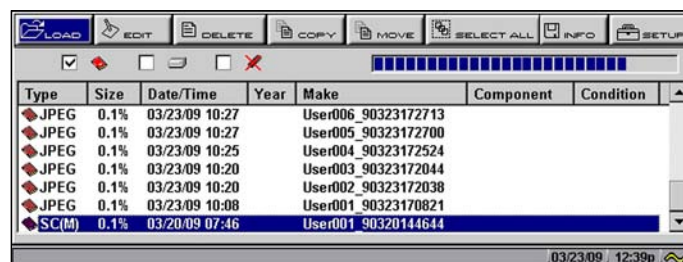

Figure 5-38 Sample saved data list
3. Select the file that you would like to review (Figure 5-38).